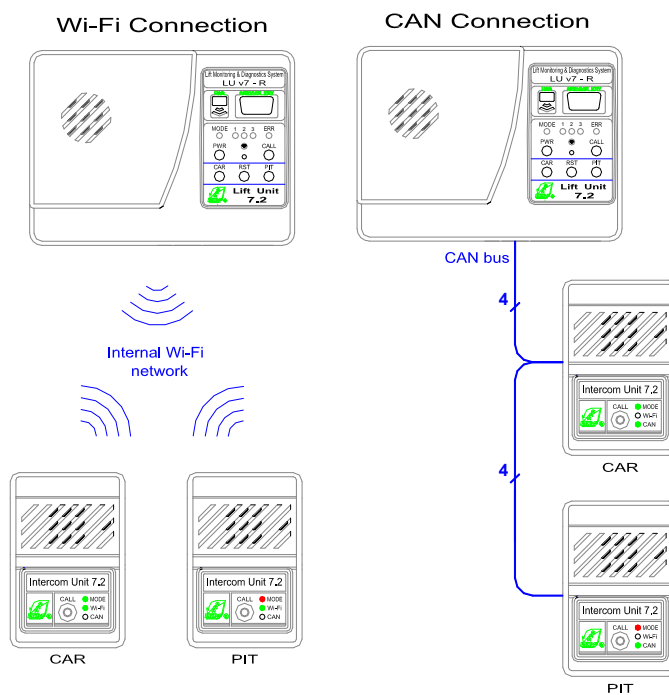

Fig 3. Internal network architecture
2.2.1. Possible internal network architecture are shown on Fig.3